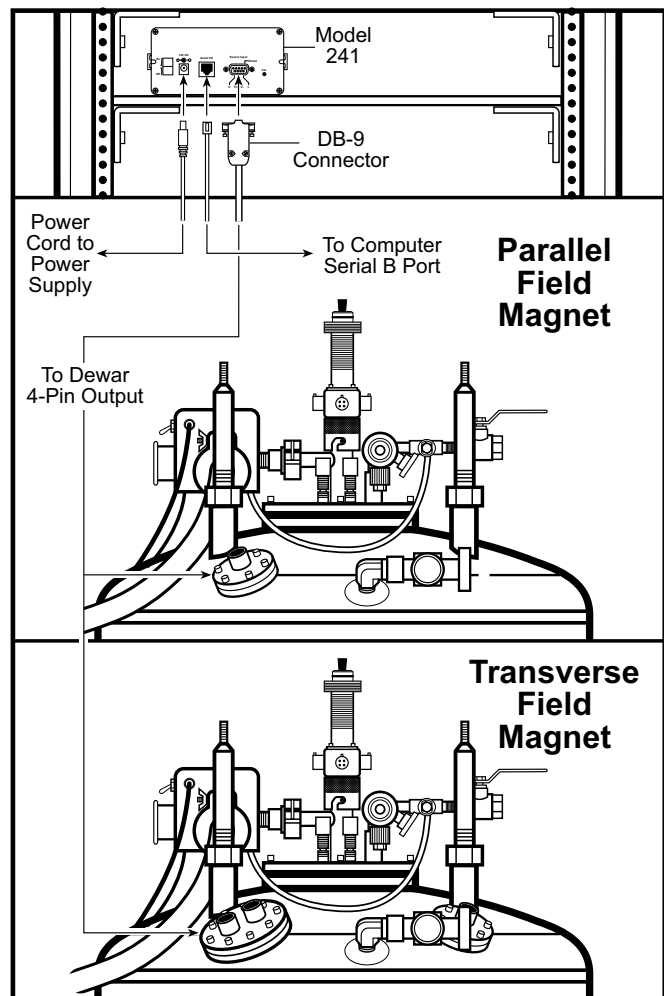

Figure 3-18 Connecting the Model 241
2. Insert one end of transfer line into liquid helium storage dewar. See Figure 3-18. Position the end of the transfer line a few inches above the dewar bottom.